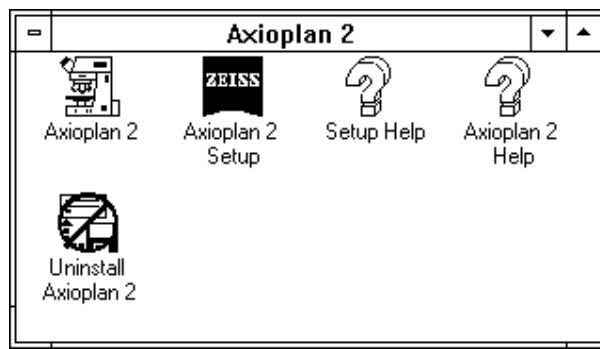

Fig. 43 Program window of the Microscop Software
- Activate the **Axioplan 2** window in the Program Manager (Fig. 43).